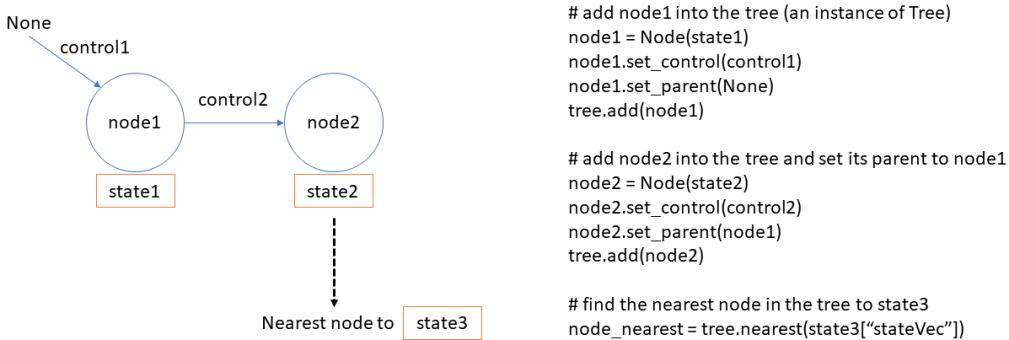

Figure 3: A basic example of how to use `Node` and `Tree`.
2. (4 points) Implement the main algorithm of the Kinodynamic RRT. Please first read and understand the provided classes `Tree` and `Node` in `rrt.py`. They relate to the data structure that will be used by the Kinodynamic RRT planner. Below is a quick example of how to declare `Node` instances, set its associated controls, set its parent node, and add nodes to an instance of `Tree`, as illustrated in Figure 3.